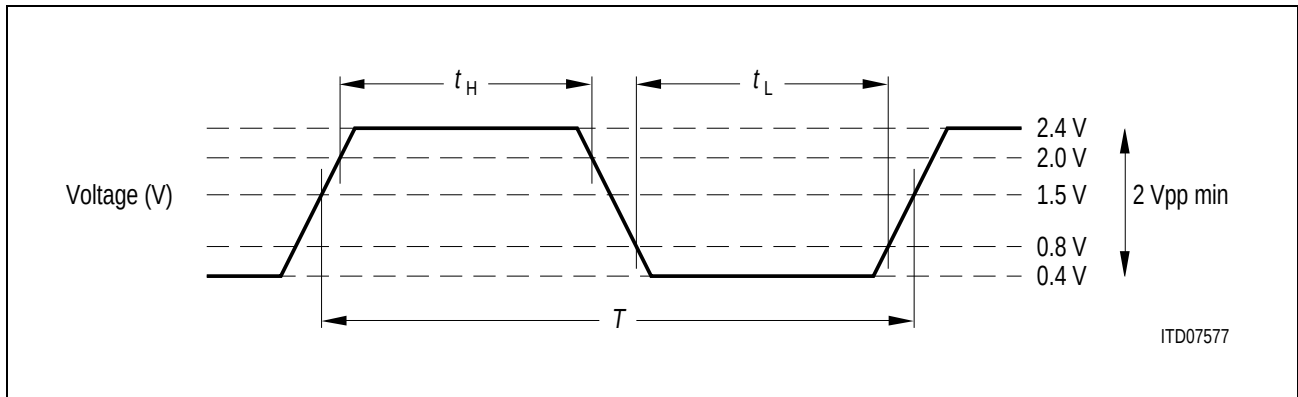

**Figure 90** PCI Clock Specification
*Note: Rise and fall times are specified in terms of the edge rate measured in V/ns. This slew rate must be met across the minimum peak-to-peak portion of the clock waveform as shown in Figure 90.*